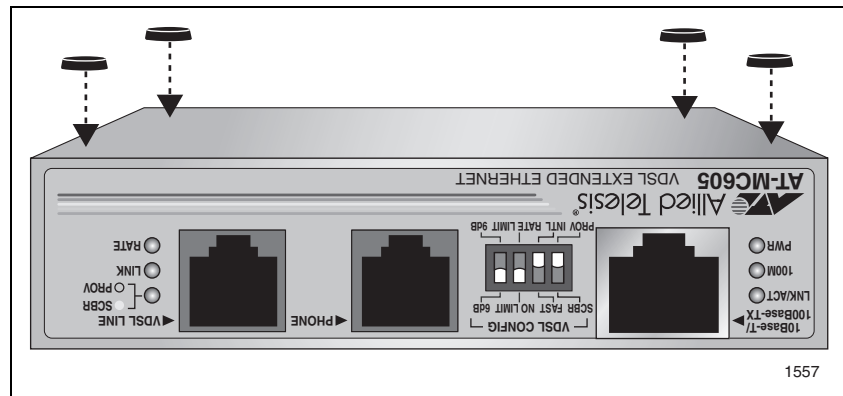

Figure 12. Attaching Protective Feet to the Provider Unit
2. Attach the four protective feet (provided) to each corner of the bottom of the unit, as illustrated in Figure 12.